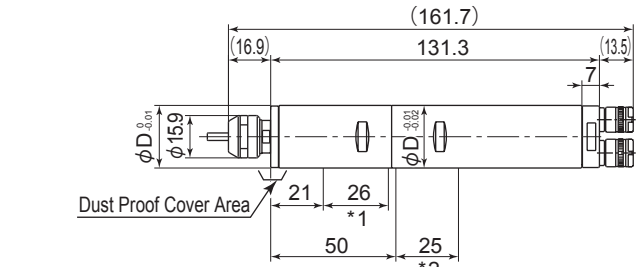
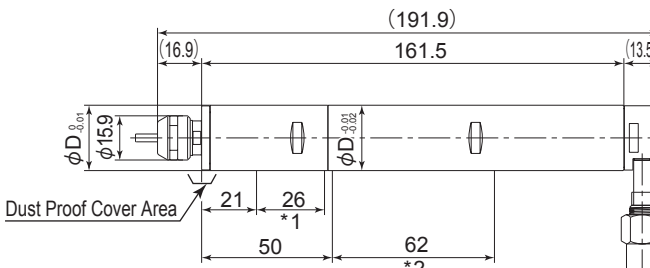

Fig. 1
Fig. 6
- ① When mounting a Air Motor Spindle, refer to the Clamping Area etched on the Air Motor Spindle. These Air Motor Spindle have 2 Clamping Area refer to " 3 - 2 Outside View (Fig. 1 - Fig. 6).